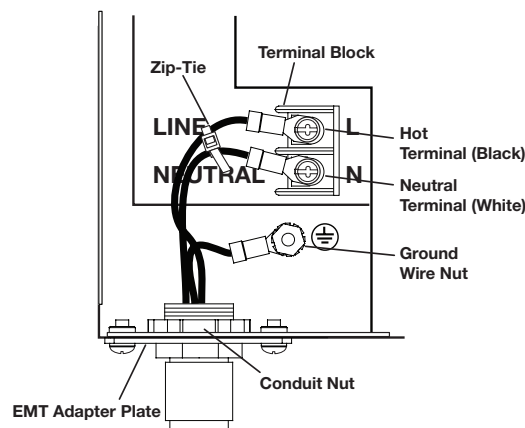

Figure 7. Installing the EMT Adapter Plate Assembly
10. Connect the black hot (Line) and white neutral wires to the terminal block on the PCB using the 2 screws that were removed in step 3. Use the included zip tie wrap to secure the two wires together close to the terminals (see figure 7).